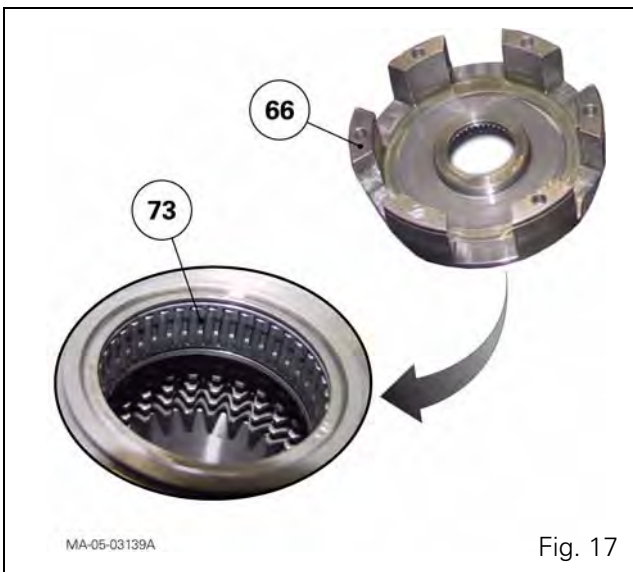

Fig. 17
29. If necessary, take out the needle bearing (73) of the clutch housing (66) (Fig. 17).